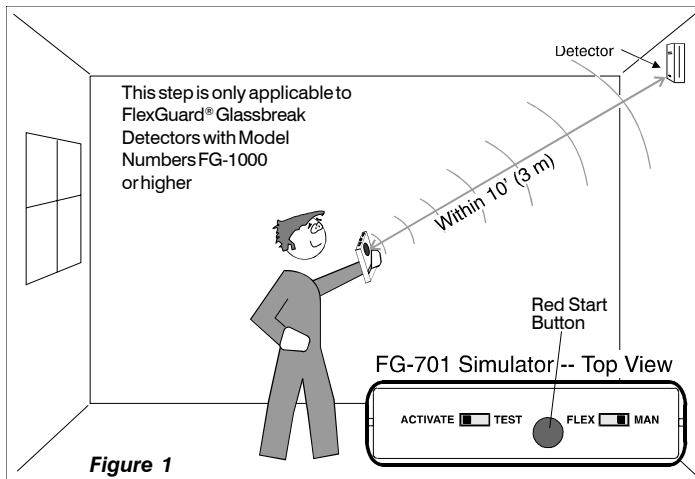

Figure 1
3. Set the FG-701 switches to the ACTIVATE and MANual modes (see Figure 1).